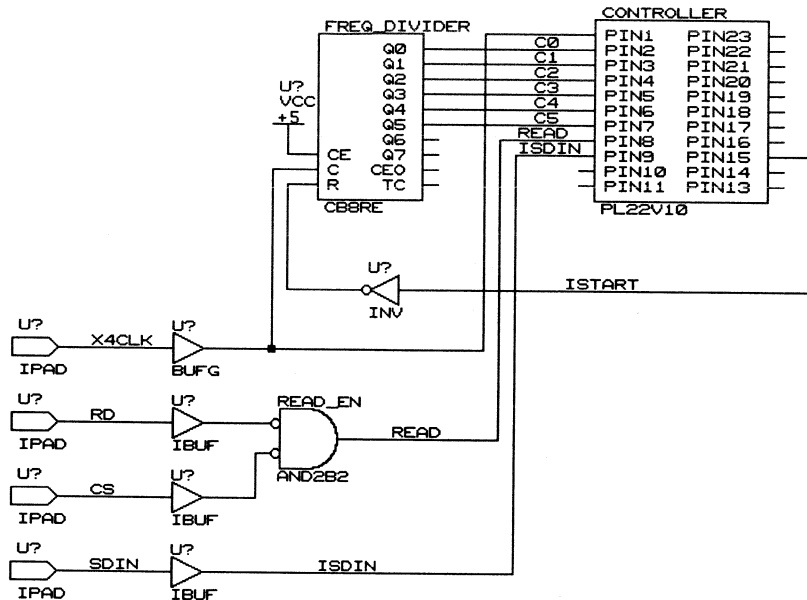

Figure 16-9 Adding Wire Labels
5. Repeat steps 2 through 4 and place labels C0 through C5, X4CLK, RD, CS, SDIN, START, ISTART, and ISDIN as shown in Figure 16-9.